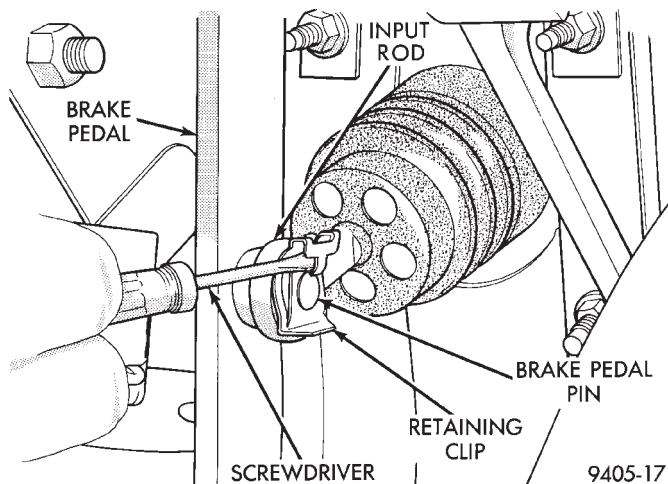

Fig. 100 Input Rod Retaining Pin
(10) Locate the power brake vacuum booster input rod to brake pedal attachment under instrument panel. Position a small screwdriver between the center tang on the power brake booster input rod to brake pedal pin retaining clip (Fig. 100). Rotate screwdriver enough to allow retaining clip center tang to pass over end of brake pedal pin. Then pull retaining clip off brake pedal pin. **Discard retaining clip. Replace only with a new retaining clip when assembled.**